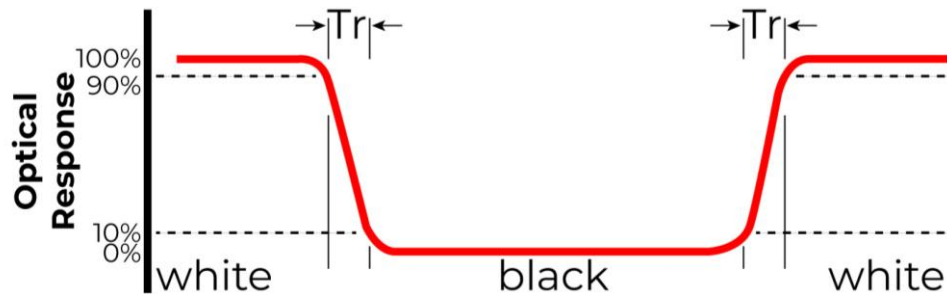

Figure 2. The definition of response time
**Note 1.** Contrast Ratio (CR) is defined mathematically as below, for more information see Figure 2.
**Note 2.** Surface luminance is the LCD surface from the surface with all pixels displaying white. For more information see Figure 2.
**Note 3.** The uniformity in surface luminance  $\delta$  WHITE is determined by measuring luminance at each test position 1 through 5, and then dividing the minimum luminance of 5 points luminance by maximum luminance of 5 points luminance. For more information see Figure 2.